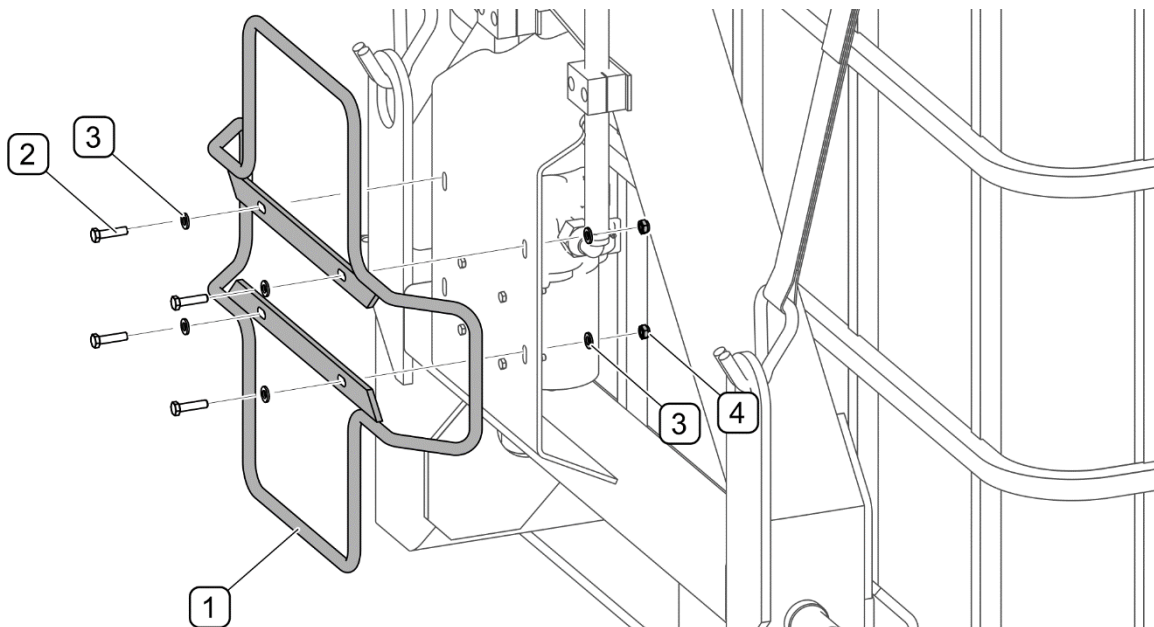

FIGURE 4.8 Installing the outlet hose holder
(1) - hose holder; (2) - M6x25 bolt; (3) - 6-100HV washer; (4) - M6 nut
Outlet hose winding holder (1) can be optionally mounted at the front on the support frame (FIGURE 4.8).